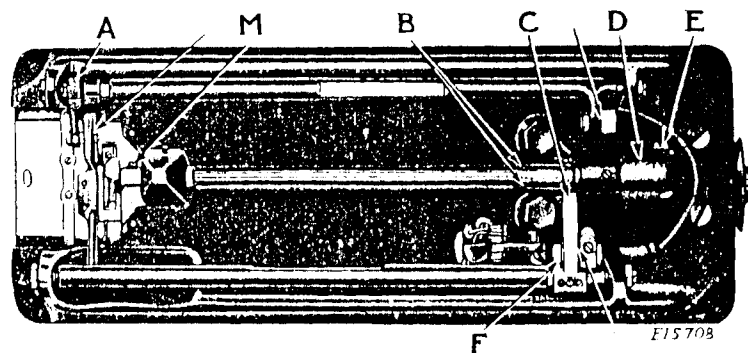

Fig.3 Base View of Machine
The feed dog should be set so that when it is raised to its highest point, the full depth of the teeth project above the upper surface of the throat plate. If the feed dog is not set at the correct height, loosen screw (A), FIG. 3) and raise or lower the feed dog as required, then securely tighten the screw (A).
If the looper is out of time, loosen the two screws (B, Fig.3) on the looper shaft and move the looper as required. Then tighten the screws (B).
Turn the machine back on its hinges and apply oil to the parts underneath the machine indicated by the unlabeled arrows in FIG. 3.